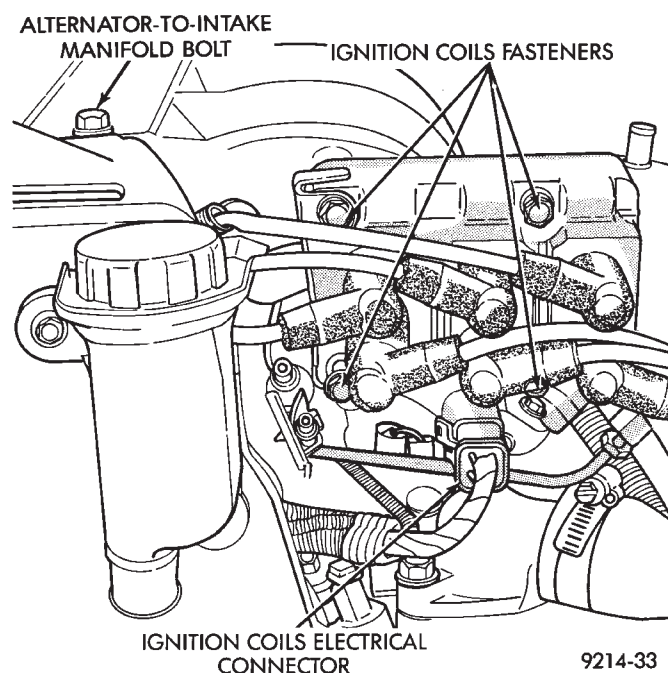

Fig. 16 Ignition Coil Removal and Installation
- (1) Remove spark plug cables from coil (Fig. 16).
- (2) Remove ignition coil electrical connector.
- (3) Remove ignition coil mounting screws.
- (4) Remove ignition coil.